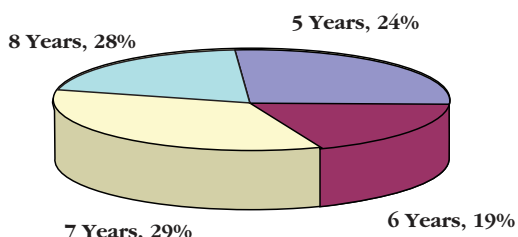

Figure 1
- Between the years 2000 and 2003, over 250 restorations were placed in 192 patients using **Virtuoso Universal** composite. Of these, 134 restorations in 77 patients were available for recall (Figure 1).